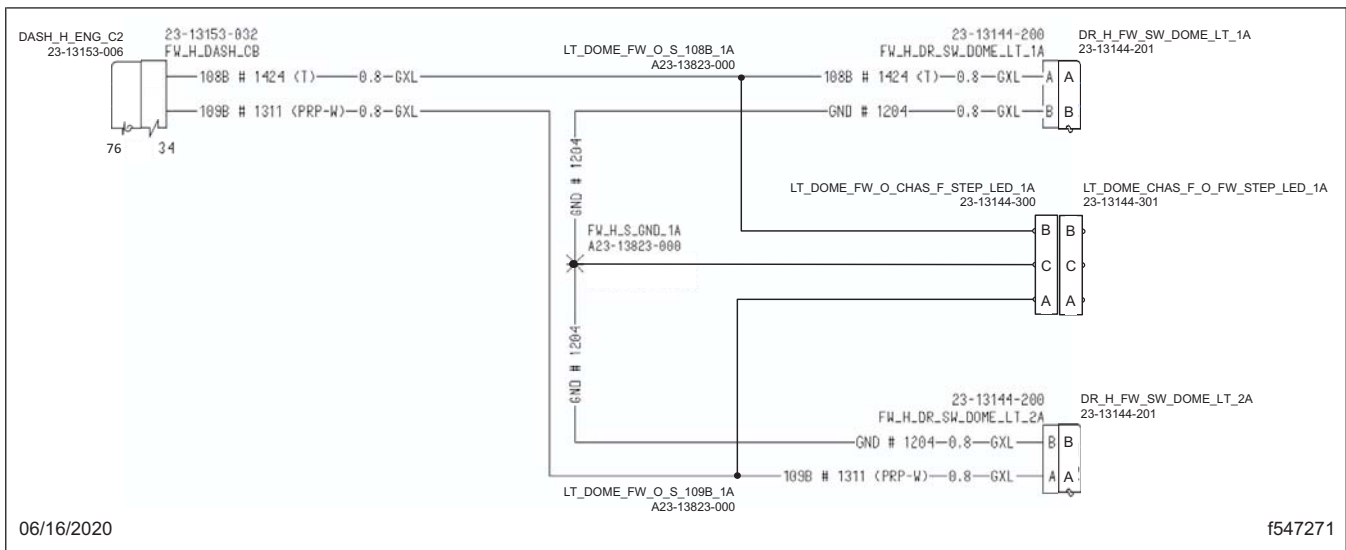

Fig. 2, Circuit Diagram, 3-Pin Connector
6. Locate the wires 108B and 109B at pin-B and pin-A of the 3-pin connector respectively. See Fig. 2. Cut the two wires about four inches away from the 3-pin connector. Apply shrink tube on the frontwall harness side of each wire separately in order to seal/protect them and secure sealed wires into harness. The third wire in the 3-pin connector LT_DOME_FW_O_CHAS_F_STEP_LED_1A is the ground (GND) and will remain in the 3-pin connector pin-C.